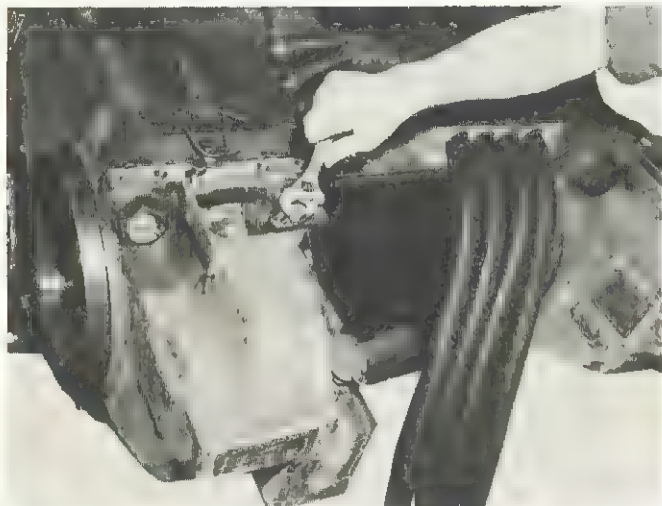

Fig. 15-10
3. Insert fixture or wedge (wood or fiber) to depress the waste pusher. See Fig. 15-10.